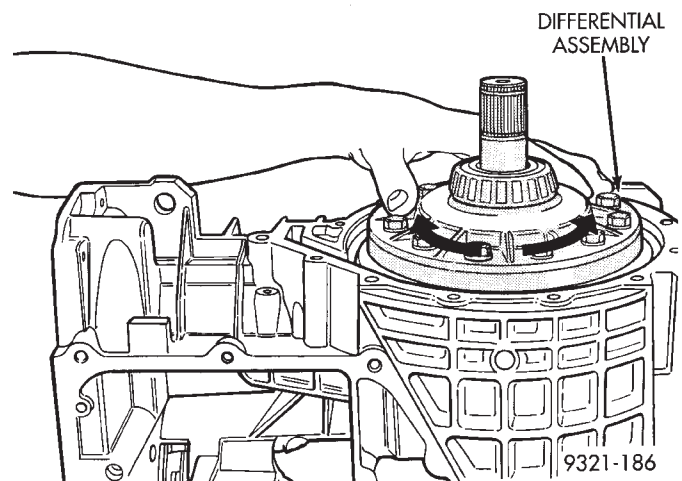

Fig. 288 Rocking Ring Gear Back and Forth
(52) Transfer shaft to ring gear backlash should be 0.006" to 0.009" thousands of an inch. To get the backlash close enough to measure, perform the following steps. Hold the transfer shaft with one hand and rock the ring gear back and forth (Fig. 288). You